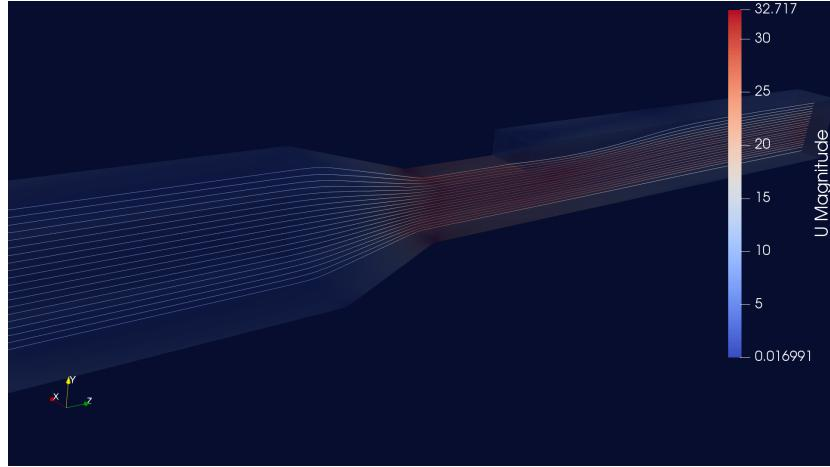

Figure 5: Streamlines emanating from the inlet of the domain
- Streamlines emanating from the inlet of the domain See Figure 5 which can be generated from `streamLines` post processing utility, see also the `Allrun` and `system/controlDict/streamLines` scripts.